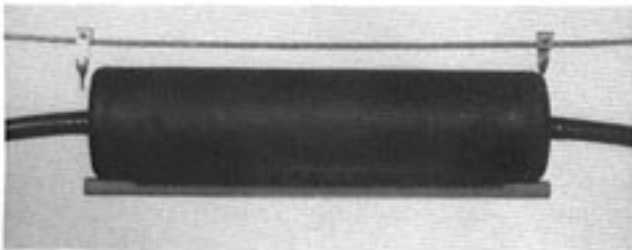

FIGURE 38 - COMPLETED APPLICATION
11.06 The completed closure installation (Figure 38).